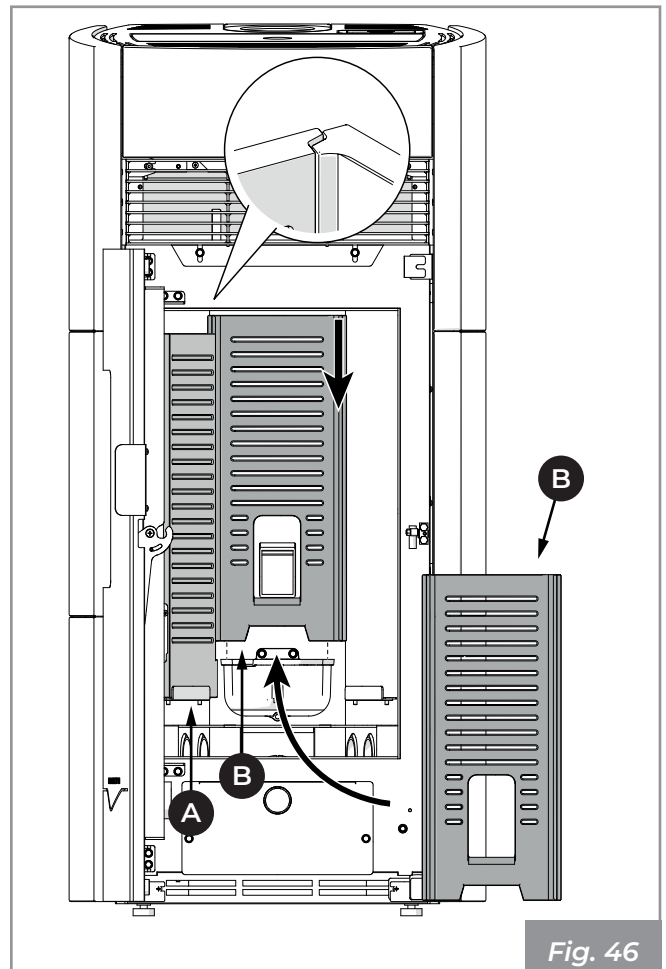

Fig. 46
- Position the bottom refractory wall (B) in the combustion chamber (Fig. 46).
- Insert the bottom wall (B) into the side profile of the left wall (A) and check that it is resting on the burn pot holder.